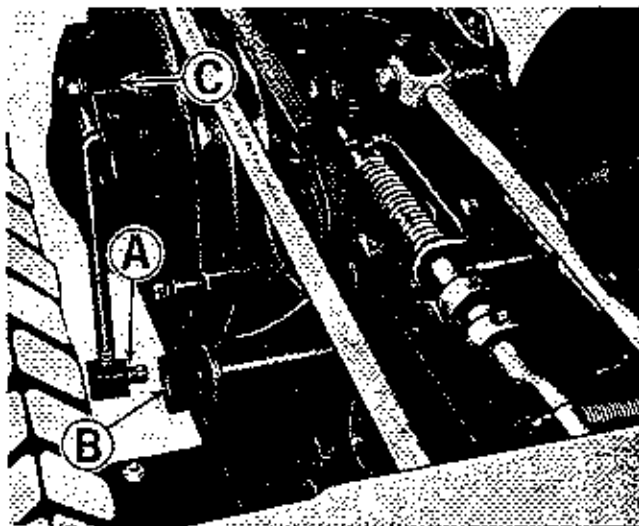

Figure 11. Shuttle drive adjustments.
8. See figure 11. Remove the cotter pin from swivel (A) and pull swivel (A) out of hole (B). Rotate swivel (A) until all slack is removed from brake band (C) when swivel (A) is placed through hole (B).
9. Install the cotter pin in swivel (A) to hold it in position through hole (B).
**Will not pull with full power in reverse.** Repeat steps 7 through 9 tightening brake band (figure 11, item C) more than previously.
**Tractor creeps rearward when control lever is in neutral.** Repeat steps 7 through 9 placing less tension on the brake band (figure 11, item C) than before.